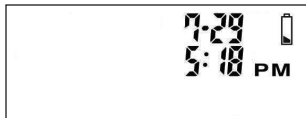

Figure 39
1. When the “” symbol appears alone on the display, the meter is functional and the result remains accurate, but you should change the battery as soon as possible. See *Figure 39*.